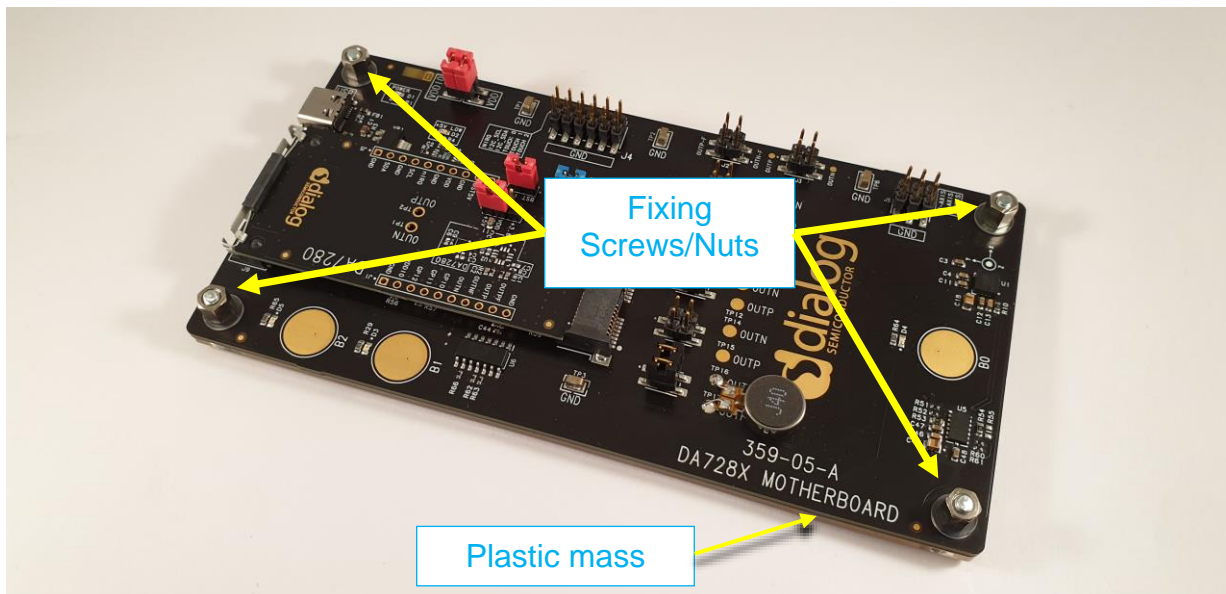

Figure 11. DA728x motherboard PCB combined with plastic mass = 100 grams
To create a 100-gram reference weight (industry standard for haptics), a tightly screwed plastic mass has been fitted to the DA728x motherboard PCB (Figure 11). This is useful for evaluating LRA performance with respect to the amount of acceleration (G) the LRA produces when attached to this reference weight.